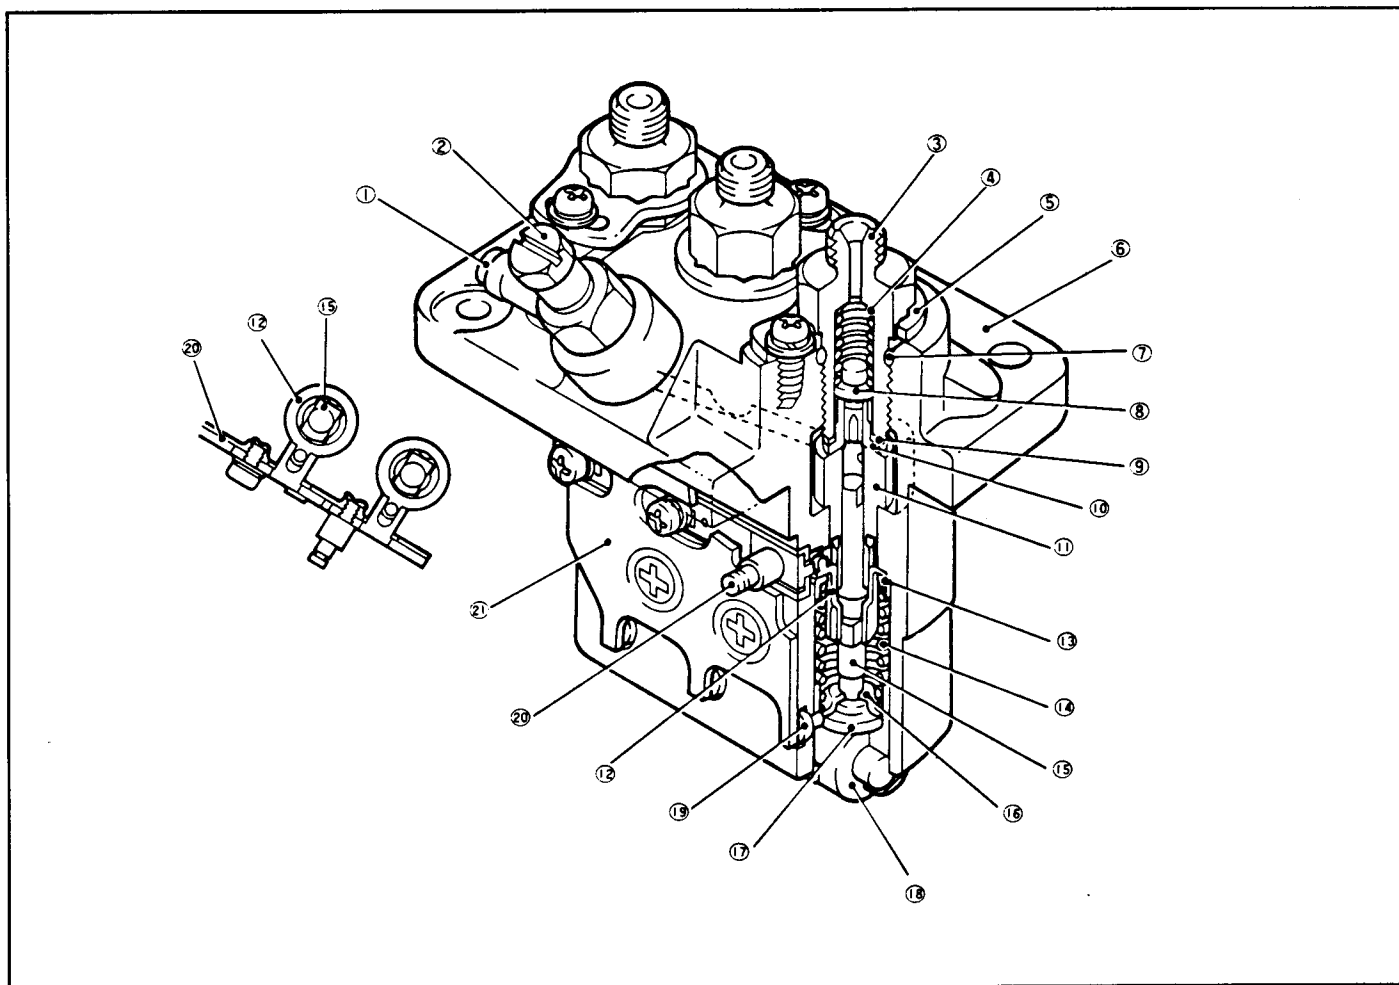

Figure 46
1. Remove the stopper holder. Remove the delivery valve holder (Fig. 46).